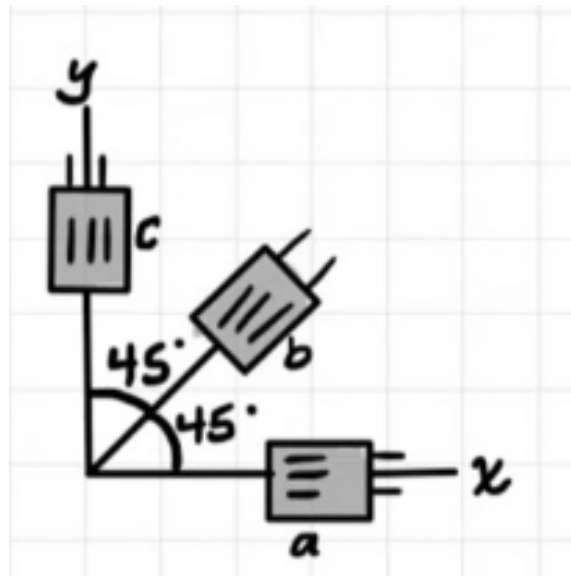

Figure 5
5. A 45-degree strain rosette is installed on a surface of a steel (Poisson ratio = 0.30, $E = 200 \text{ GPa}$) structure as shown in Figure 5. The reading obtained from each strain gauge is as follows: $\epsilon_a = 750 \times 10^{-6}$; $\epsilon_b = -125 \times 10^{-6}$; $\epsilon_c = -250 \times 10^{-6}$. The general equation for the strain gauge is given in the Table 2.